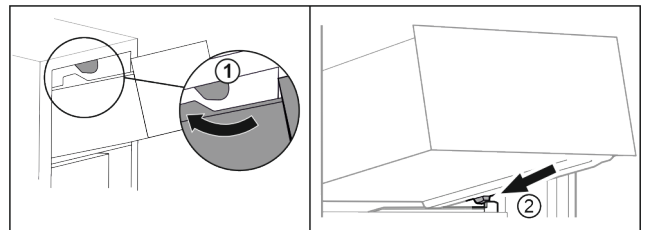

Fig. 61
- Guide drawer around the upper stoppers. Fig. 61 (1)
- Place drawer at an angle behind the lower stoppers onto moulded rib. Fig. 61 (2)